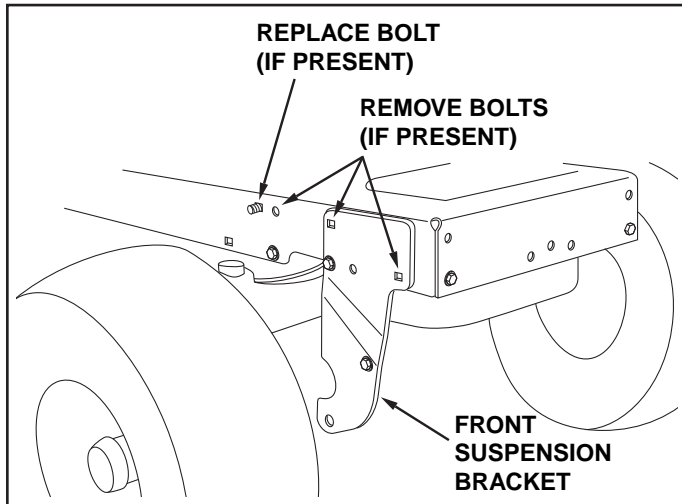

FIGURE 20 RIGHT SIDE VIEW
If your tractor resembles figure 20, go to step 21.
STEP 21: (SEE FIGURE 20)
- If a bolt is present in the fourth hole, replace it with a 5/16" x 1" carriage bolt (J) without a nut. The bracket fastened to inside of frame must remain in place.